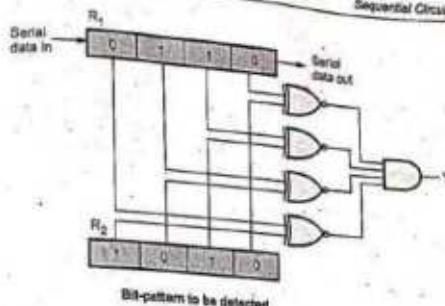

Fig. 5.8.18 4-bit sequence detector
- In every clock cycle, bit-wise comparisons of these two registers are done using EX-NOR gates as shown in the Fig. 5.8.18. The two-input EX-NOR gate gives logic high output when both inputs are either low or high, i.e. when both are equal. When outputs of all the EX-NORs gates are logic high we can say that all bits are matched and hence the desired bit pattern is detected. The final output which indicates that the pattern is detected is taken from four-input AND gate.
- The 4-bit sequence detector shown in Fig. 5.8.18 can be made programmable by loading the desired 4-bit data in the register  $R_1$ .